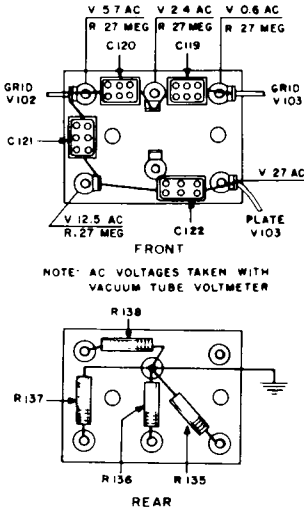

Figure 6-3. Capacitor-Resistor Assembly, E106
d. CAPACITOR-RESISTOR ASSEMBLY, E106 - This is called out in Figure 5-2 and detailed in Figure 6-3. To remove it:-